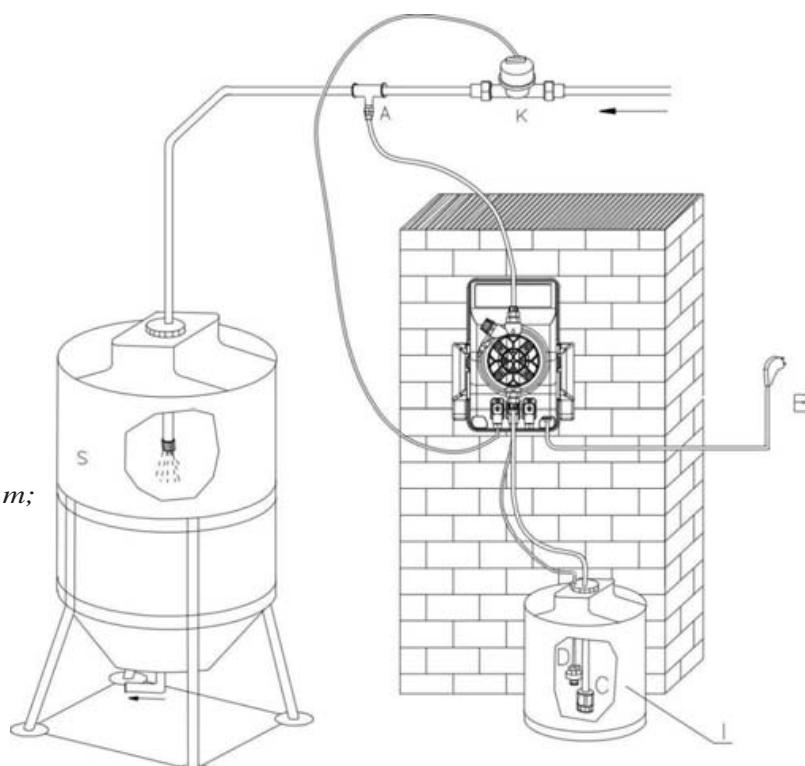

Fig. 19
- 5 - "green" LED 1XN (M) function/water meter
9.2 - TYPICAL INSTALLATION (Fig. 19)